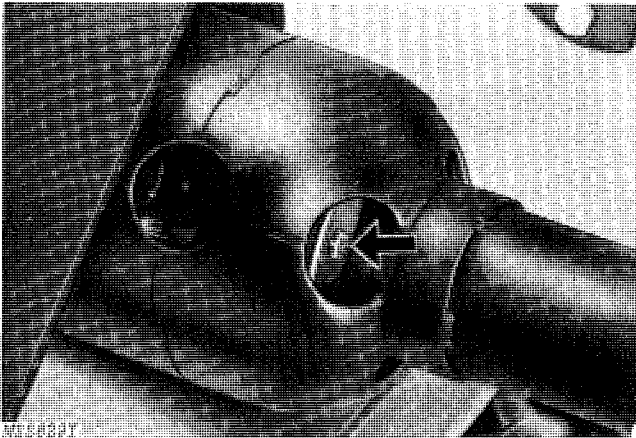

Fig. 9-Replacing Shear Bolts
3. Rotate PTO shaft shield until shear bolts can be reached through large hole in shield, Fig. 9.
4. Remove sheared bolt, Fig. 9.